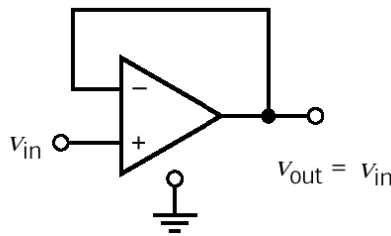

Figure 5. Voltage follower (buffer) circuit.
A voltage follower circuit is shown in Figure 5. It employs negative feedback whereby the inverting input is set equal to the output voltage v_o . This makes the op-amp net input $v_1 - v_2 = v_o - v_{in}$. Substituting this net input in Equation (1) leads to: $v_o = -A(v_o - v_{in})$. Solving for v_o gives us: